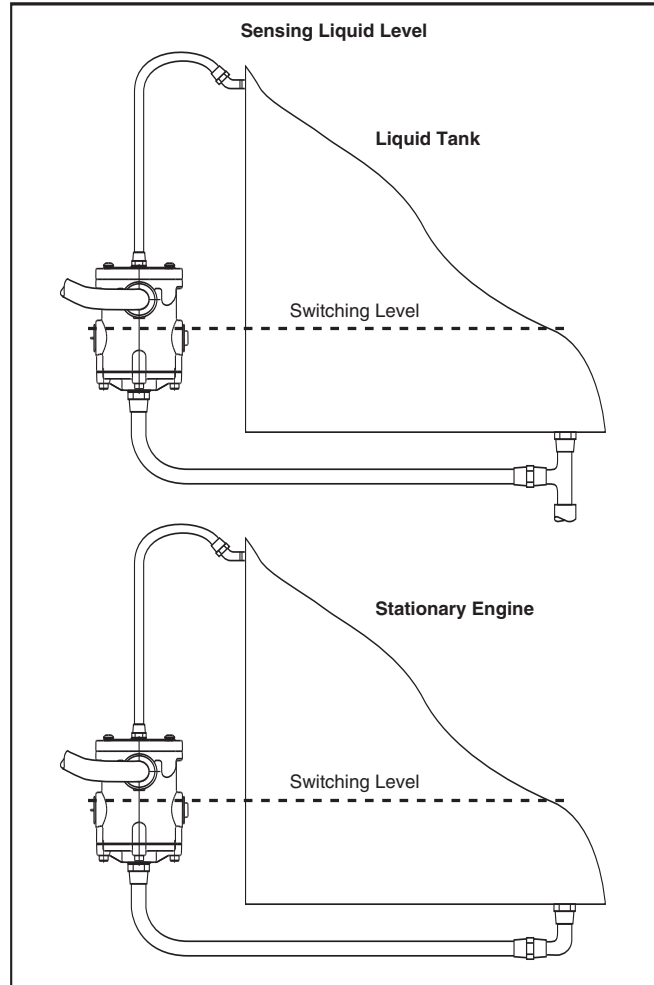

Figure 2 - Sensing Liquid Level
Step 3 - Run a 3/8" (9.53 mm) ID minimum line from the vent on the top of the Liquid Level Switch to the container at or near the highest point on the container (see Figure 2).